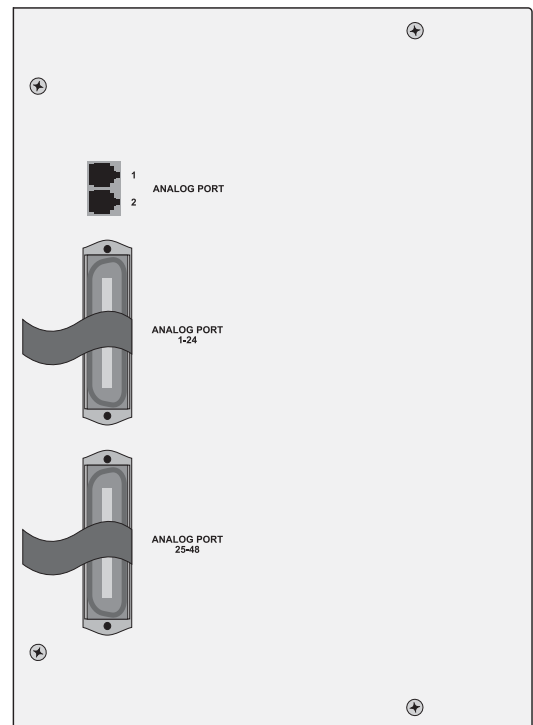

Figure 2-8. System 922 Left Side Panel
- ❑ Insert the female connector of the 25-pair cable into the plug labeled Analog Port 1-24. Secure the connector using the fastener strap attached to the plug. The plug is located on the left side panel of the System 922 as shown in Figure 2-8.
- ❑ Insert the female connector of the 25-pair cable into the plug labeled Analog Port 25-48. Secure the connector using the fastener strap attached to the plug. This plug is also located on the left side panel of the System 922 as shown in Figure 2-8.